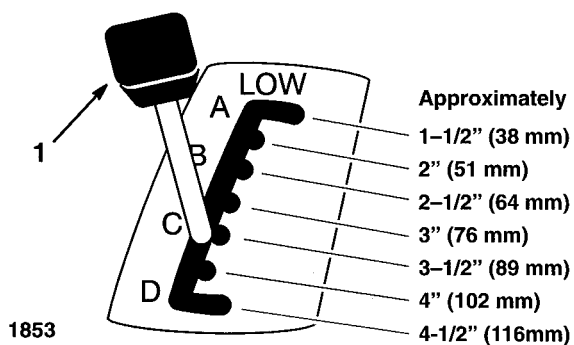

Figure 8
2. Pull on the height-of-cut lever (deck lift) and move it to the desired position (Fig. 8).